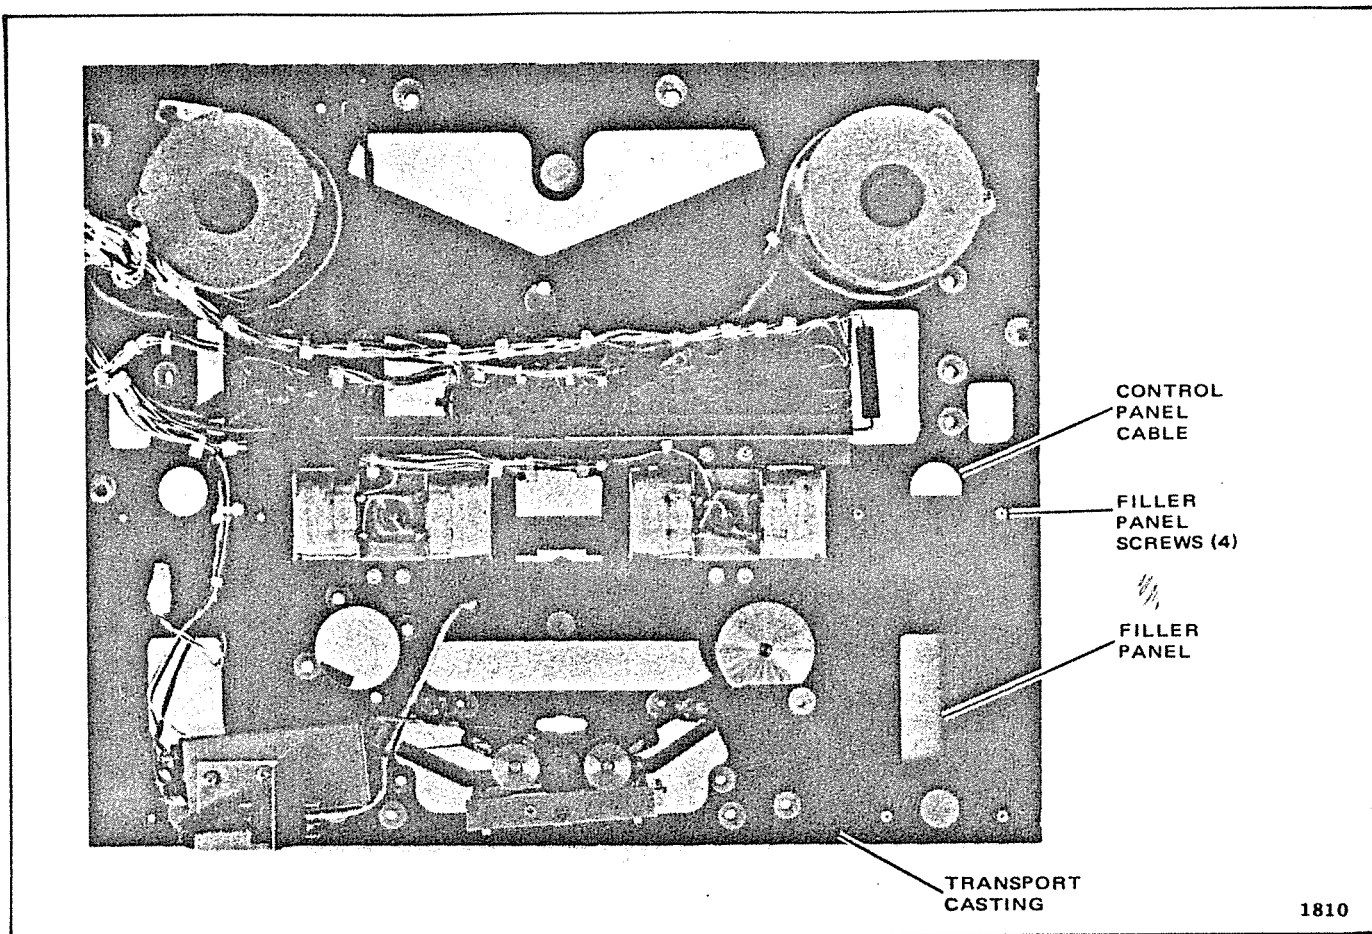

Figure 2. Rear View of Filler Panel (Transport Components Removed for Clarity)
12. Examine left forward underneath side of transport mounting for two screws holding filler panel in place (see Figure 2). If two screws are present proceed to step 14. If two screws are not present proceed to step 13.